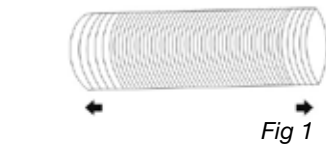
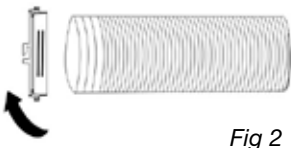

Fig 1
Fig 2
1. Extend either side of the hose (Fig 1) and screw the hose to the inlet (Fig 2).